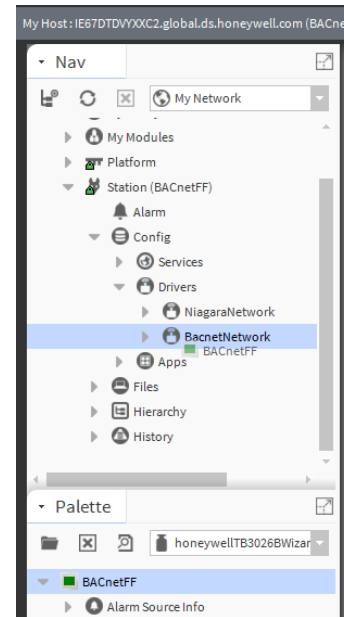

Figure 26: Drag and drop BACnetFF on BacnetNetwork
- Drag 'BACnetFF' and Drop it on 'BacnetNetwork' added under created station. Refer to Figure 26.